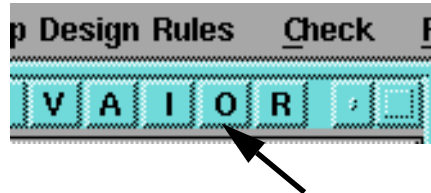

Figure 2-25. The Edit Window Zoom Out Icon
5. Zoom out to see a larger area by either clicking twice on the *O* (zoom out) icon in the upper-right corner of the edit window, as shown in Figure 2-25, or by placing the cursor in the edit window, and typing **zoom out 4** (when you type, a popup command line appears), and pressing the Return key.